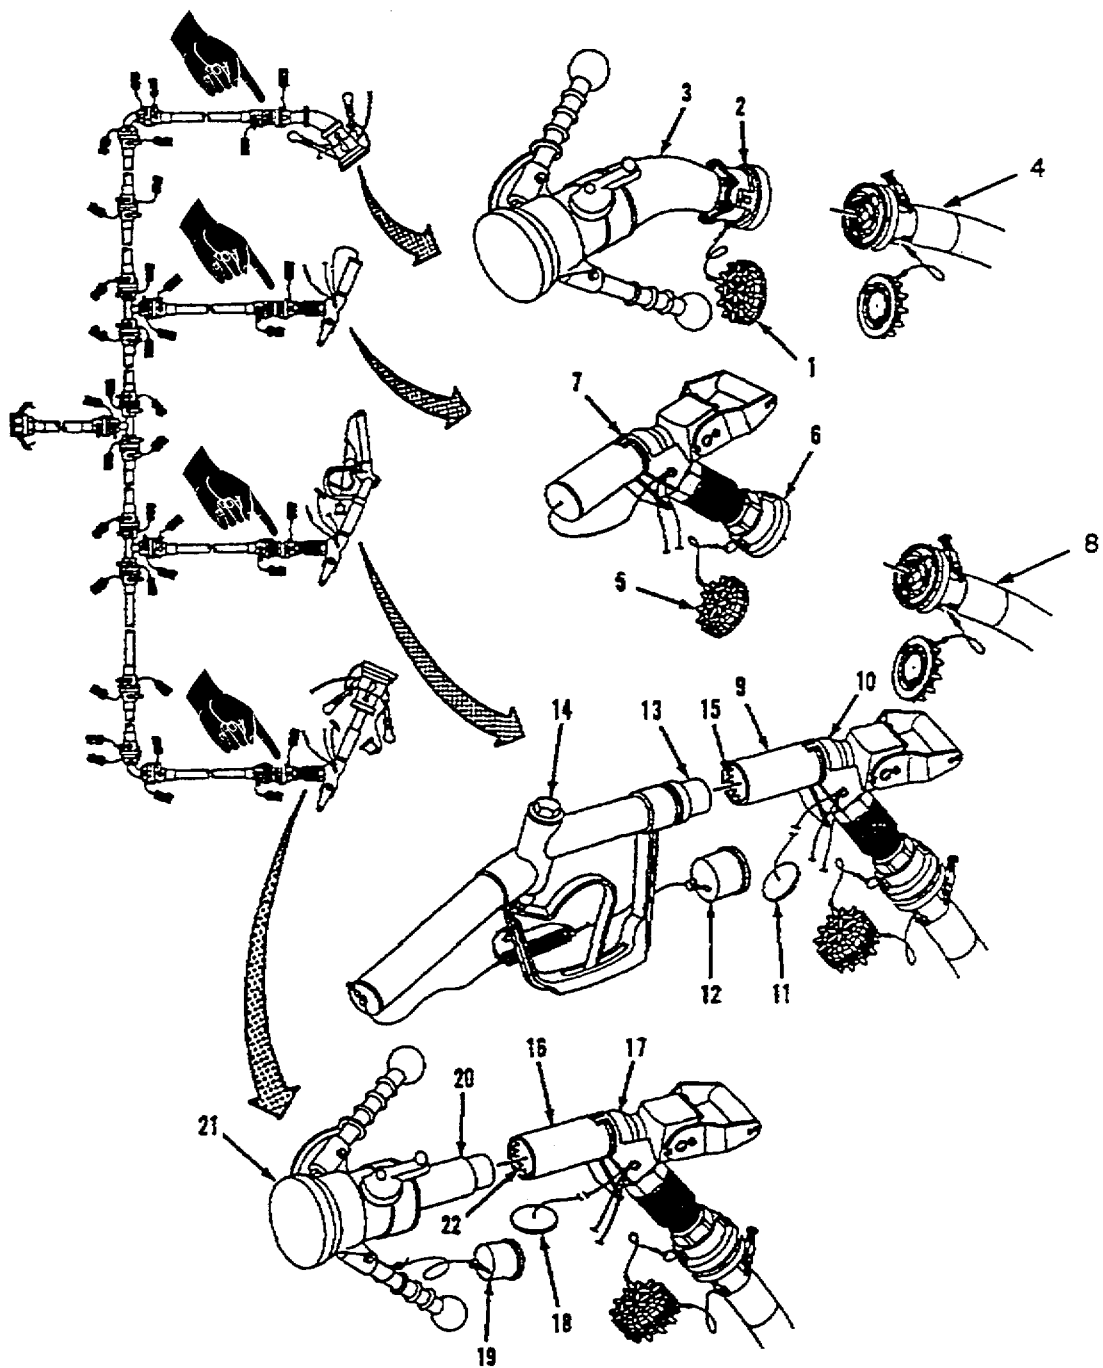

Figure 2-11. Fuel Nozzle Installation.
- h. Fuel Nozzle Installation. Refer to figure 2-11. Variations in fuel system layout are permitted to meet your specific mission requirements. All of the same type fuel nozzle or a combination of different type nozzles may be used in the fuel system. The following paragraphs provide instructions for connecting one of each type nozzle.
- (1) Twist dust cap (1) to the left and remove from coupling (2) on D1 nozzle (3).
- (2) Connect coupling (2) on D1 nozzle (3) to fuel hose (4).
- (3) Remove dust cap (5) from coupling (6) on CCR nozzle (7).
- (4) Connect coupling (6) to fuel hose (8).
- (5) Repeat steps 3 and 4 for remaining CCR nozzles (10 and 17).